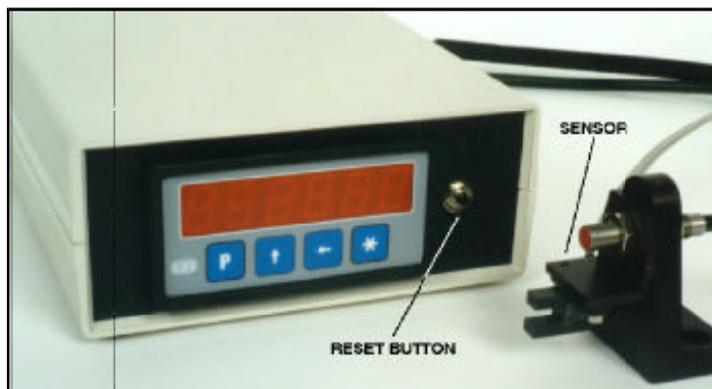

Figure 2-19. MA02 electronic display box.
- 11) Set the 2θ **MA02** electronic display box, Figure 2-19, to **0** by pressing the ***** key once. While viewing the electronic display box, move the back of the detector until the display box reads the same as the number from the calculation. If the **MA02** electronic display box is not working properly, refer to Section 5.11, **MA02 Electronic Display Box**.